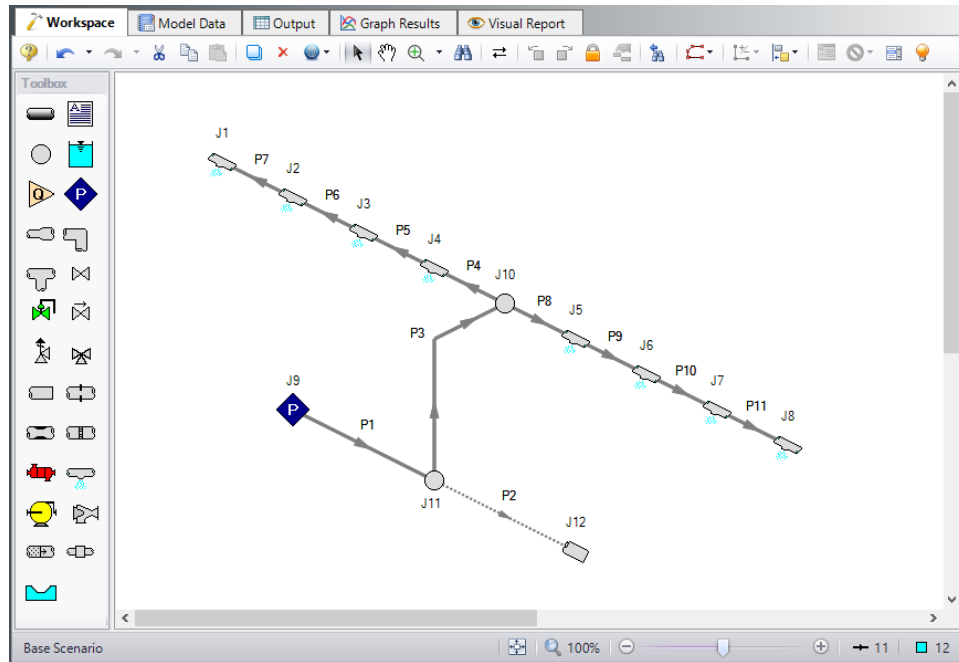

Figure 8: Isometric spray discharge system with the grid not shown
13. The grid can be shown or turned off in the Arrange menu. Figure 8 shows the completed model with the grid not shown.